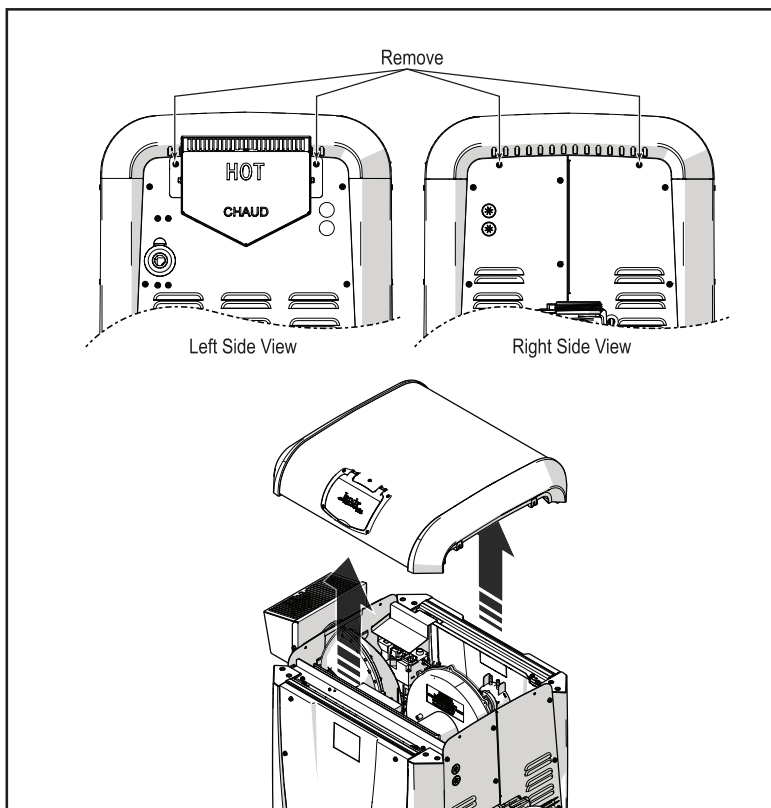

Figure 34. Remove Top Panel
6. Remove four (4) screws to take off the heater top panel (Figure 34). Take care not to damage or abrade any of the wiring.